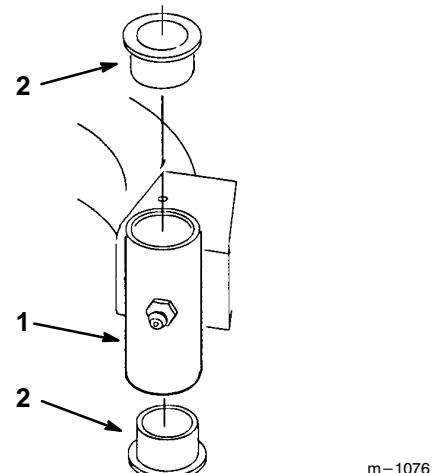

Figure 33
4. Insert a pin punch into the mounting tube and carefully drive out the bushings (Fig. 33). Clean the inside of the mounting tube.